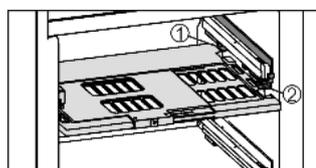

Fig. 9
- To insert the humidity control plate: Insert the cover mouldings of the plate into the rear holder *Fig. 9 (1)* from underneath and engage them in the holder *Fig. 9 (2)* at the front.